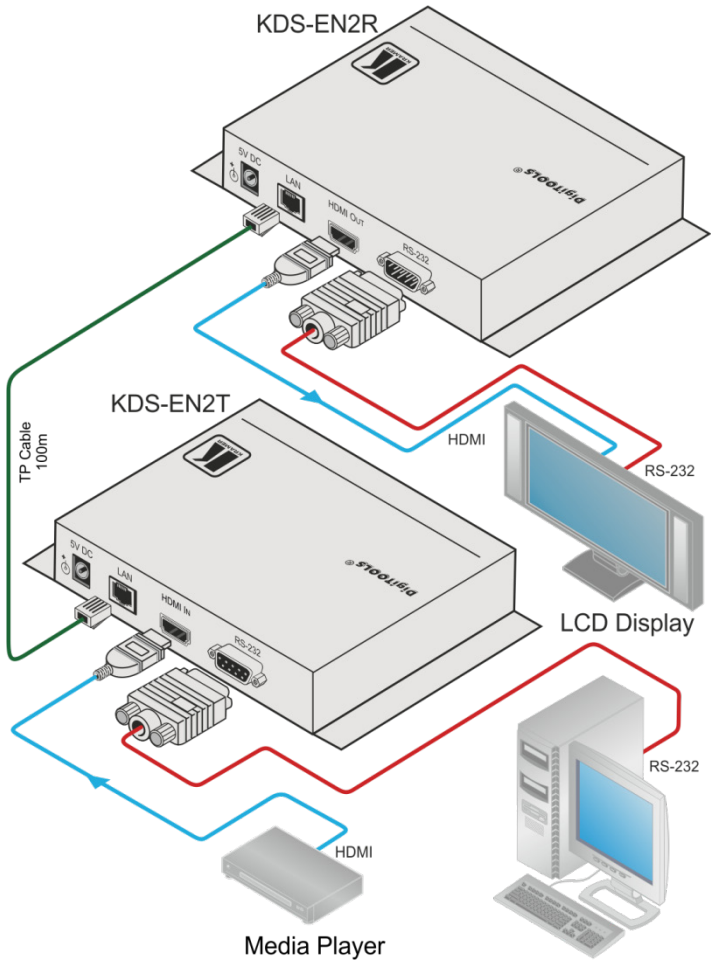

Figure 4: Connecting the HDMI to IP Transmitter and Receiver System
You can use the **KDS-EN2T** *HDMI to IP Transmitter* (see Section 4.1) and the **KDS-EN2R** to configure an HDMI-to-IP Transmitter and Receiver system (see Figure 4).
To connect the HDMI-to-IP transmitter and receiver system as shown in the example in Figure 4, do the following:
4. On both the **KDS-EN2T** and the **KDS-EN2R**, connect the 5V DC power adapter to the power socket and connect the adapter to the mains electricity (not shown in Figure 4).